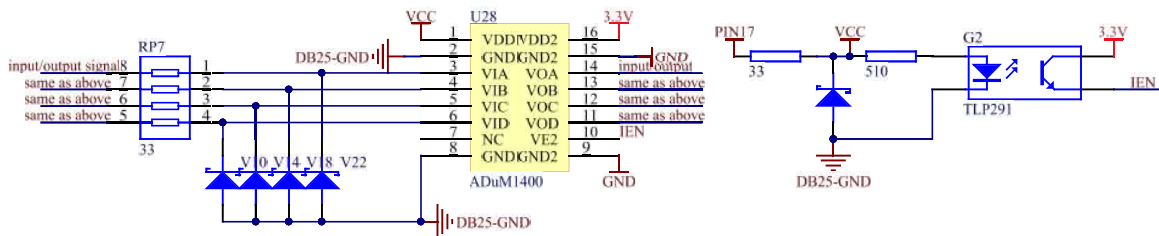

Figure 6. Schematic of input and output signals.
- (5) PIN 18 is the start signal of the MO. PIN19 is the input for the optical output signal. The electrical level for both PIN18 and PIN19 are 5V. Before turning on PIN 19, MO signal must be switched ON, in other word, the signal of PIN 18 must be ahead of PIN 19 at least 5 ms, and otherwise the laser machine may be damaged.
- (6) I/O connection of digital signal: the supply current of input signals are less than 10mA, and the supply current of output signals are less than 3 mA . The connection circuit of input/output signals is shown in Figure 6.